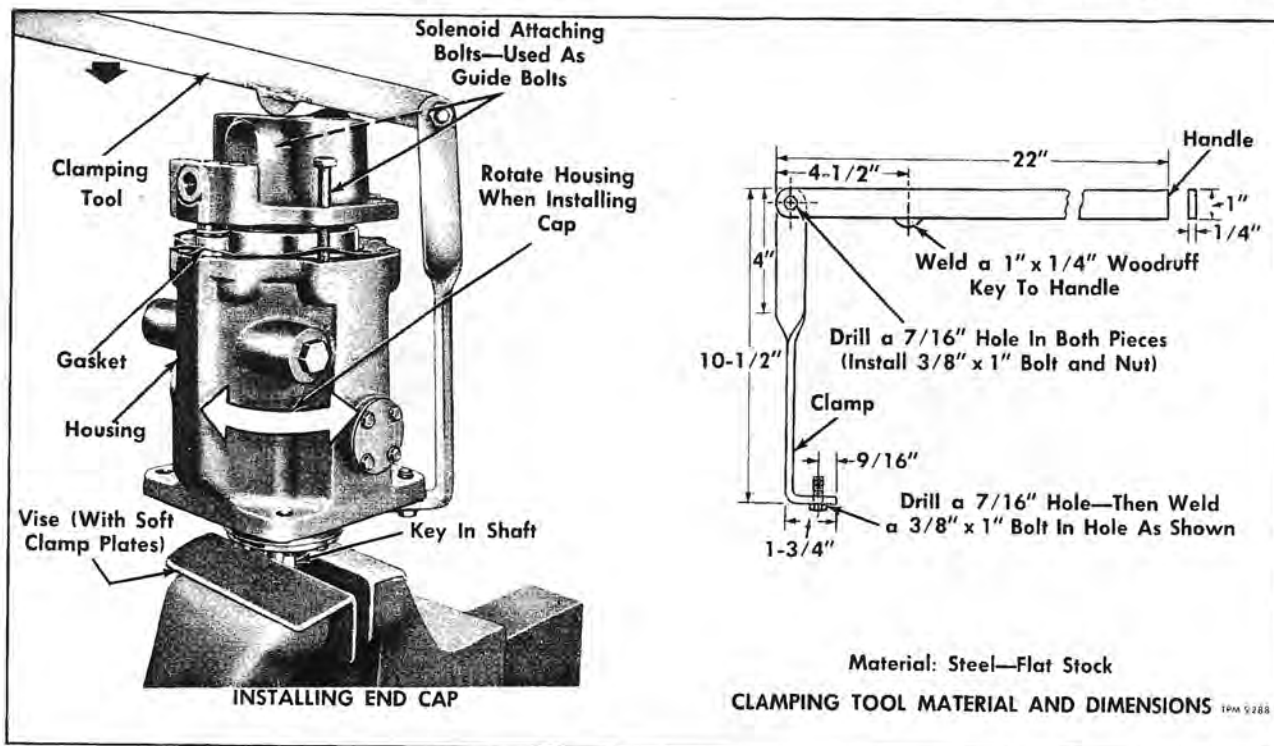

Figure 42—Using Clamp Tool To Replace Pump End Cap
4. Before removing pump end cap assembly (19), tool shown in right view of figure 42 should be made available. Tool can be improvised locally using dimensions shown. Use of this tool is necessary as end cap, which is under excessive spring pressure will follow heads of attaching bolts when being removed and may cause bolt threads to become stripped. Use tool as shown in left view of figure 42.
downward using improvised compressing tool (fig. 42). NOTE: Rotate pump housing slightly. This will facilitate alignment of shaft with bearing in the end cap. Install and tighten end cap attaching screws evenly and firmly.